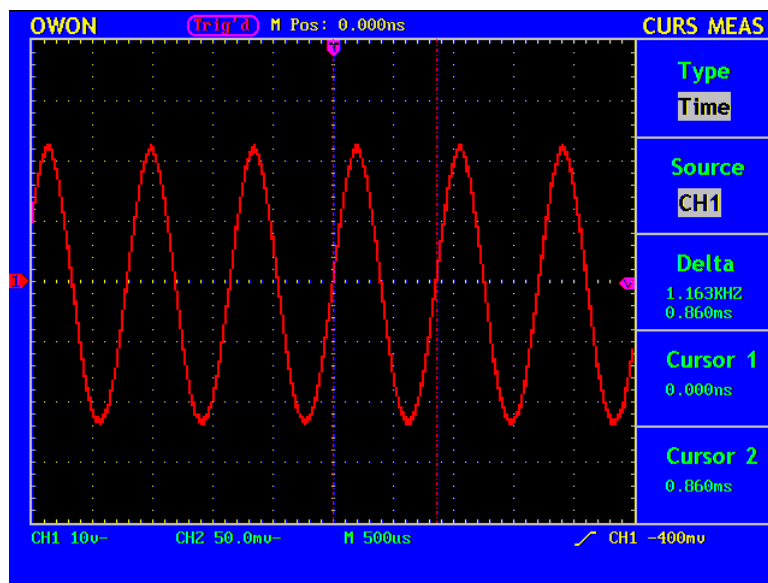

Fig.61 Time Cursor Measurements
- Move **CURSOR1** and **CURSOR2** and the results change accordingly as in Fig.61.